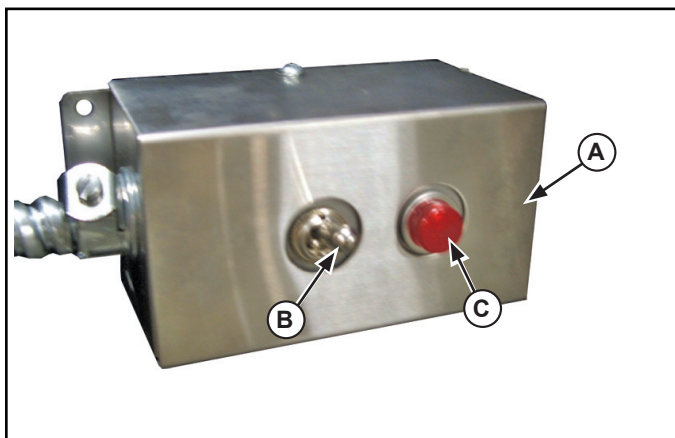

Figure 3. Control Box, Switch and Light.
7. Mount the auto-fill control box (A) at any convenient dry location close to an access door. See Figure 3.
8. Using the section of the flexible marked and/or coming from outlet (E) side of the water tank, route this line to an OPEN FLOOR DRAIN. This drain MUST not be directly plumbed to the auto fill unit. This is done to prevent contamination of the fresh water supply. See Figure 3.